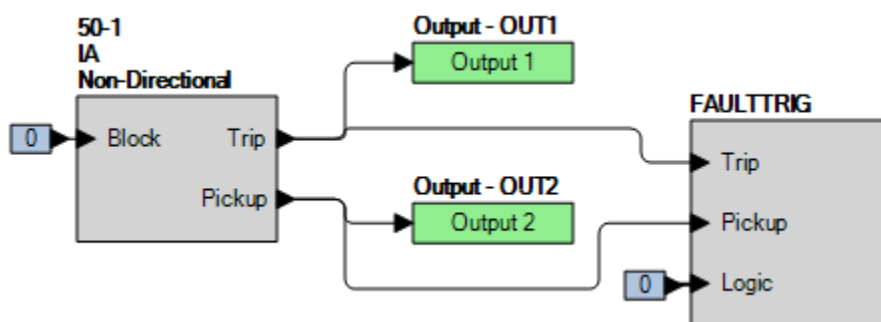

Figure 62-1. BESTlogicPlus Settings (Phase Mode)
Step 2: Use BESTCOMSPUs to configure the BESTlogicPlus programmable logic shown in Figure 62-1.
- Step 4: Prepare to monitor the 50-1 function operation. Operation can be verified by monitoring OUT2 (see Figure 62-1).